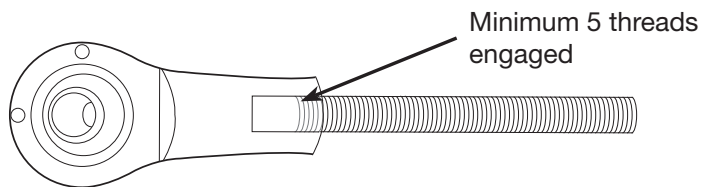

fig. 25
4. Loosen if needed in order to extend to reach the lower mounting point. If loosening the linkage to extend, it is required to make sure to have at least 5 threads of engagement on both ends (fig. 25).